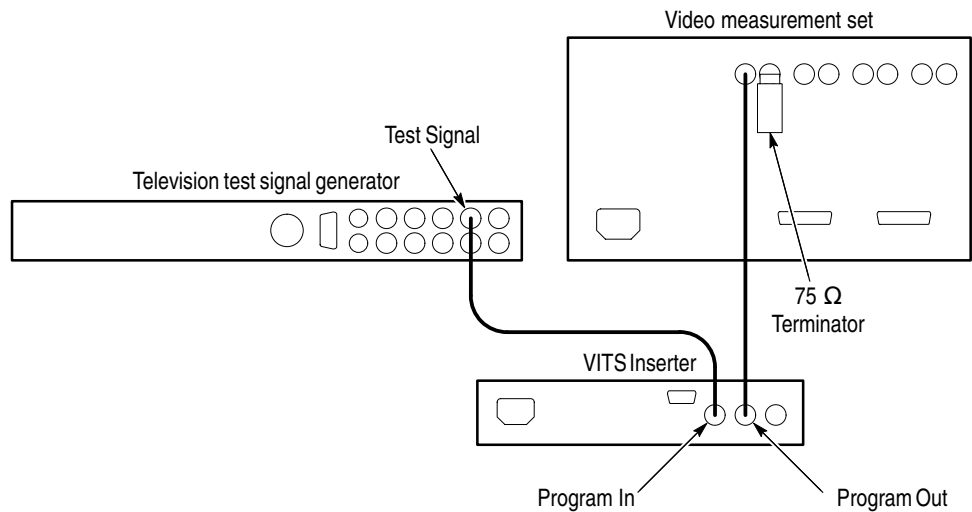

Figure 5-7: Using the video measurement set to compare signals
3. Remove the BNC female-to-female adaptor and connect the coaxial cable from the video measurement set CH A to the VITS inserter PROGRAM OUT. See Figure 5-7.
4. Connect the 75 Ω coaxial cable from the television test signal generator output to the VITS inserter PROGRAM IN. See Figure 5-7.